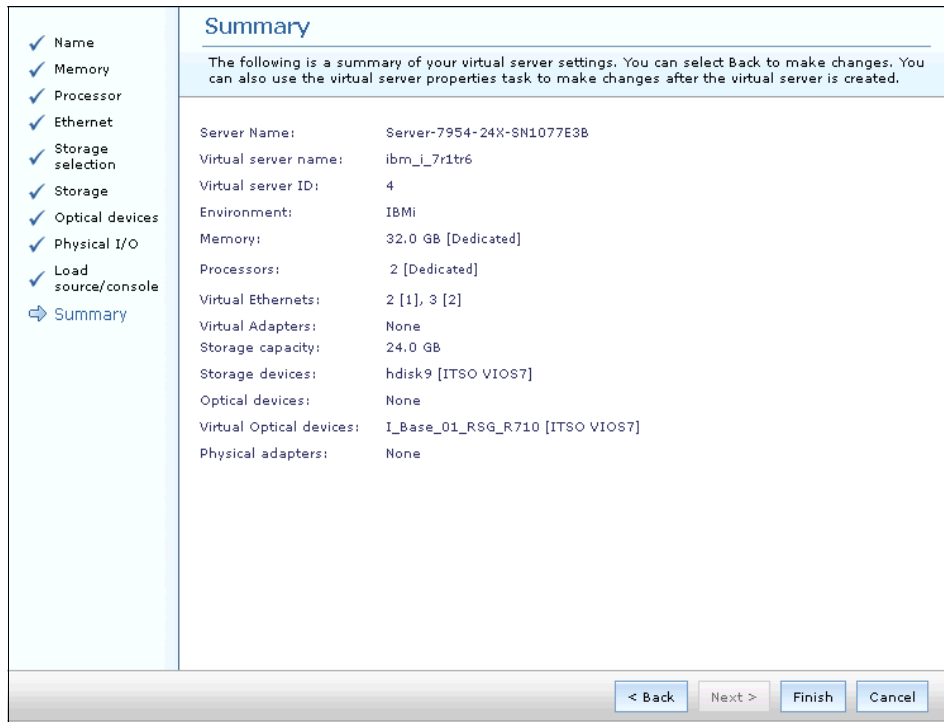

Figure 11-11 Creating a Virtual Server: Summary panel
12. The summary panel (as shown in Figure 11-11) is displayed so that you can review the properties that were selected in the Create Virtual Server wizard. After the properties are verified, click **Finish** and the virtual server is created.